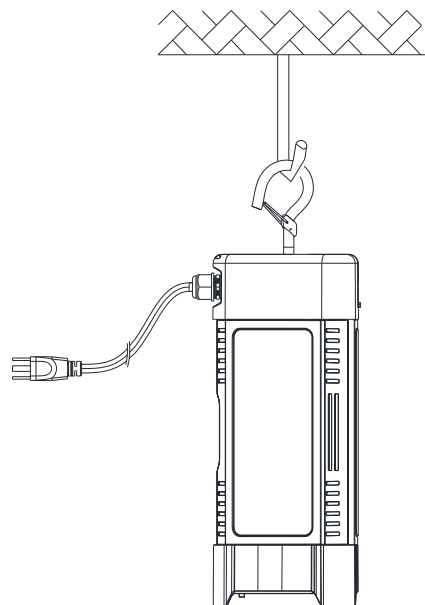

Figure 2
2. Hang on the lamp on the ceiling hook. (Figure 2).